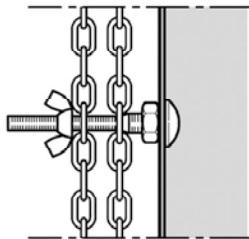

Figure 9
- In order to avoid catching the manual control chain when the door is moving, and to avoid impeding the movement of people and equipment, the lower part of the chain should be fixed at a height of ~1.5 m (fig. 9).